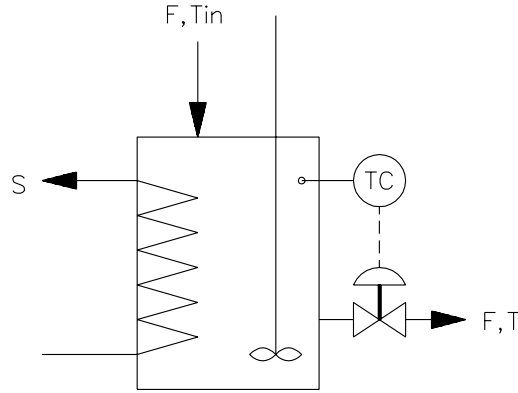

Figure 2: Stirred tank heater.
2. **Temperature control of a stirred tank heater.** After linearization and transformation to perturbed variables, the equation describing tank temperature of the system shown in Figure 2 is given by